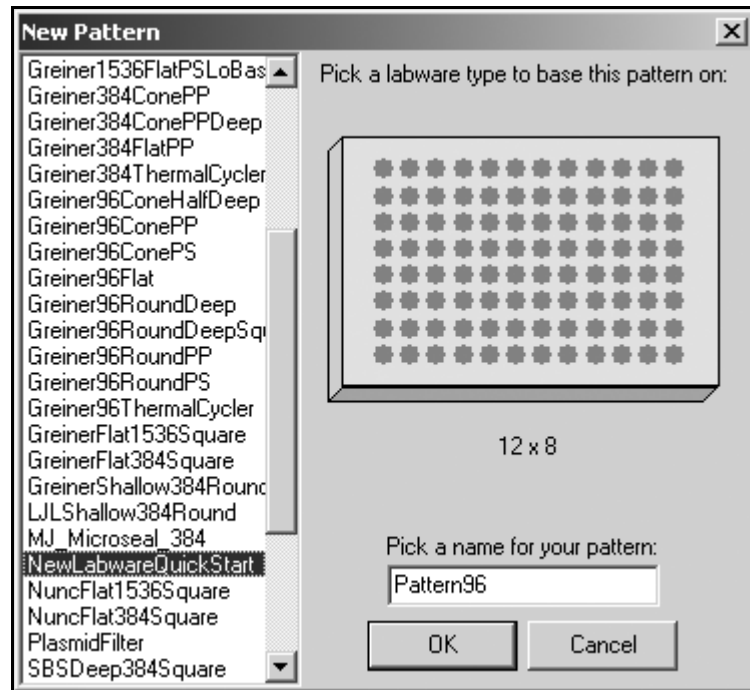

Figure 3-7. New Pattern
2. Choose **New**. New Pattern appears (Figure 3-7).